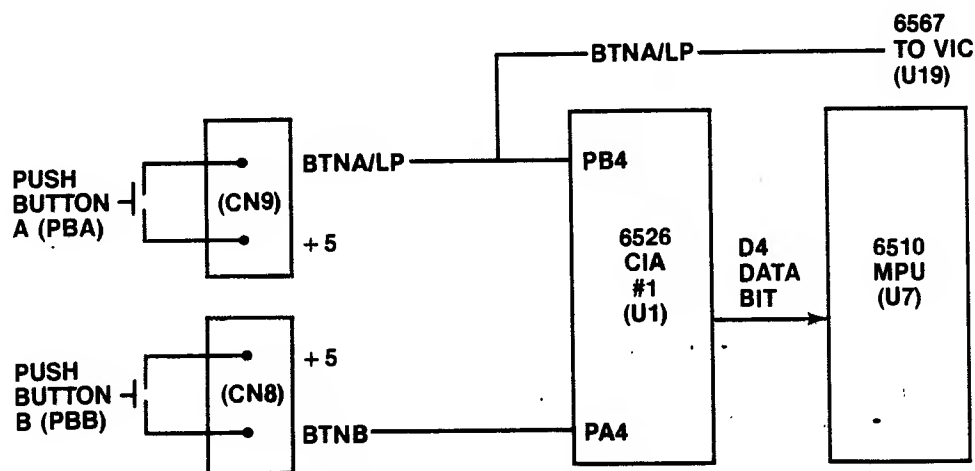

Fig. 2-29. Push-button circuitry.
The push button on each of your game paddles connects to your Commodore 64 system as shown in Fig. 2-29. These button switches are normally closed (NC), placing +5 volts on the input to 6526 CIA #1 port A or port B, bit PA4 or PB4. Each time you depress a button, you open the circuit placing 0 volts on that par-